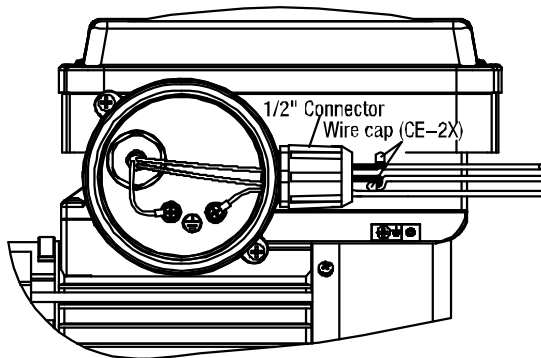

FIG. 3
- Install 1/2" connector to terminal box. Install ground wire to ground rod. using multi-function crimping pliers to connect two wires with two wire caps. (FIG.3)